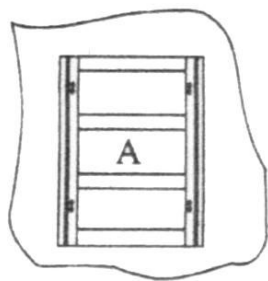

Figure 1 (Soft Surface, Cam Lock Connector)
- Step 1. Remove the base unit parts and make sure all are accounted for. Place the door and face frame (A) with the door facing down on a flat, soft working surface.
- Step 2. Insert the two side panels (B) into the grooves on each side of the face frame (A). Align the plastic half sections of the cam lock connectors. The half connector on the side panels should cover the plastic connector on the face frame and be flush. Using a screwdriver, turn the cam lock to the right 180 degrees (ref. Figure 1).
- Step 3. Insert bottom (D) into the grooves in the side panels (B) and into the grooves in the face frame (A).